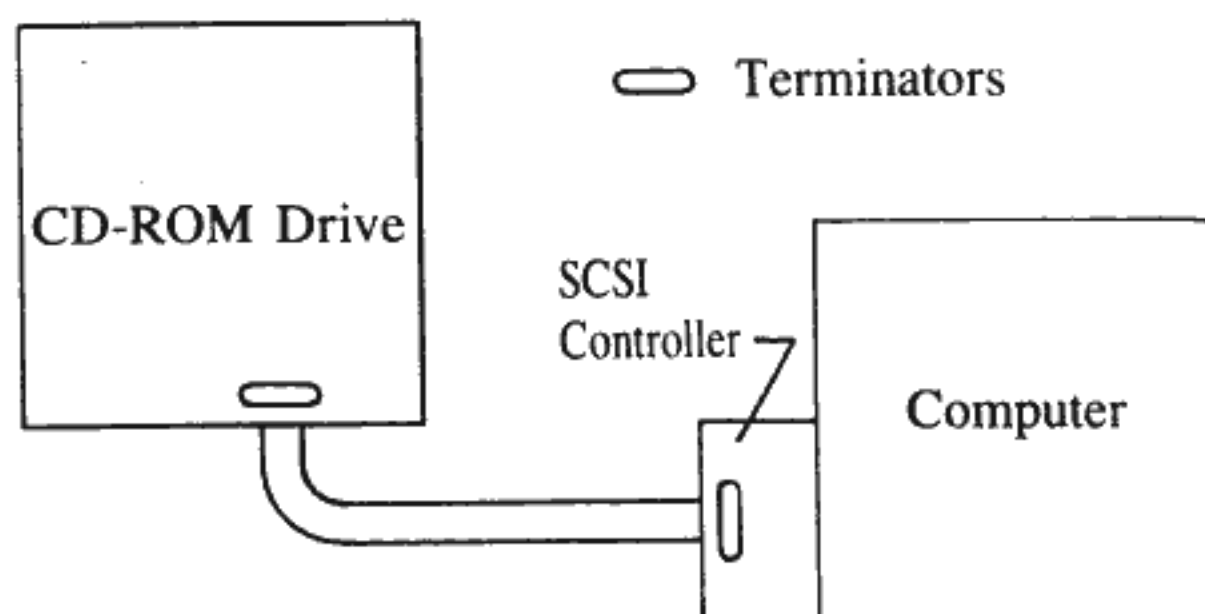

Fig. 3 - External System
Whether you purchased a complete system or are piecing everything together yourself, it would be good at this point to see a few examples of correctly assembled CD-ROM systems in various configurations (figures 3 thru 7). Notice the cabling and termination details. These should help you plan out your CD-ROM system, as well as helping you plan for future purchases (such as an additional hard drive).
- 2) Determine which of figures 3 or 4 (p. 8) will most closely match your system. Set the drive termination appropriately (see fig. 8).
- 2) Determine which of figures 3 or 4 will most closely match your system. Set the drive termination appropriately (see fig. 8).